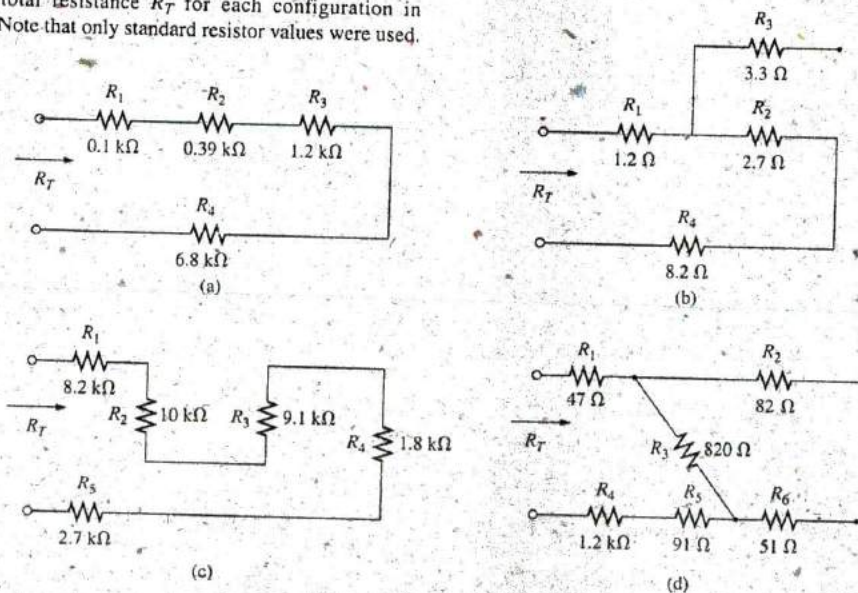

FIG. 5.86
2. Find the total resistance R_T for each configuration in Fig. 5.86. Note that only standard resistor values were used.